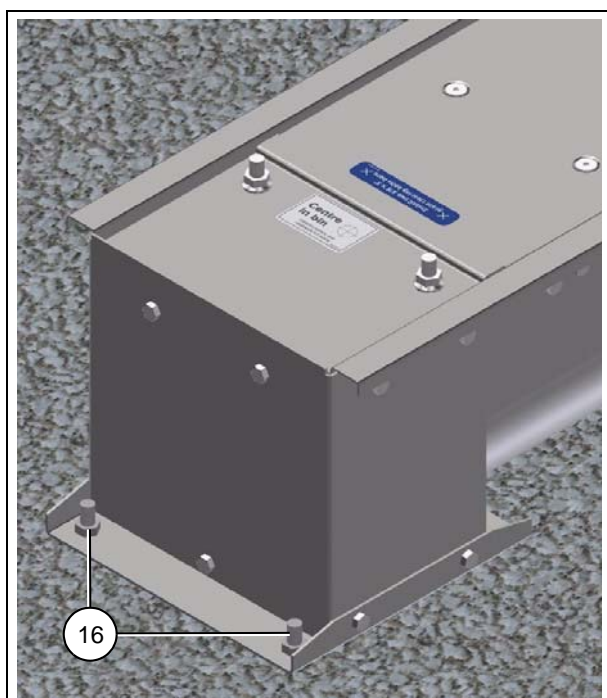

Figure 4B
2. Insert the unloader and center in the bin. Note the bin center location marked on the dust cover. Secure the unloader with anchor bolts (16) (not provided) to the bin foundation. (See Figure 4B.)